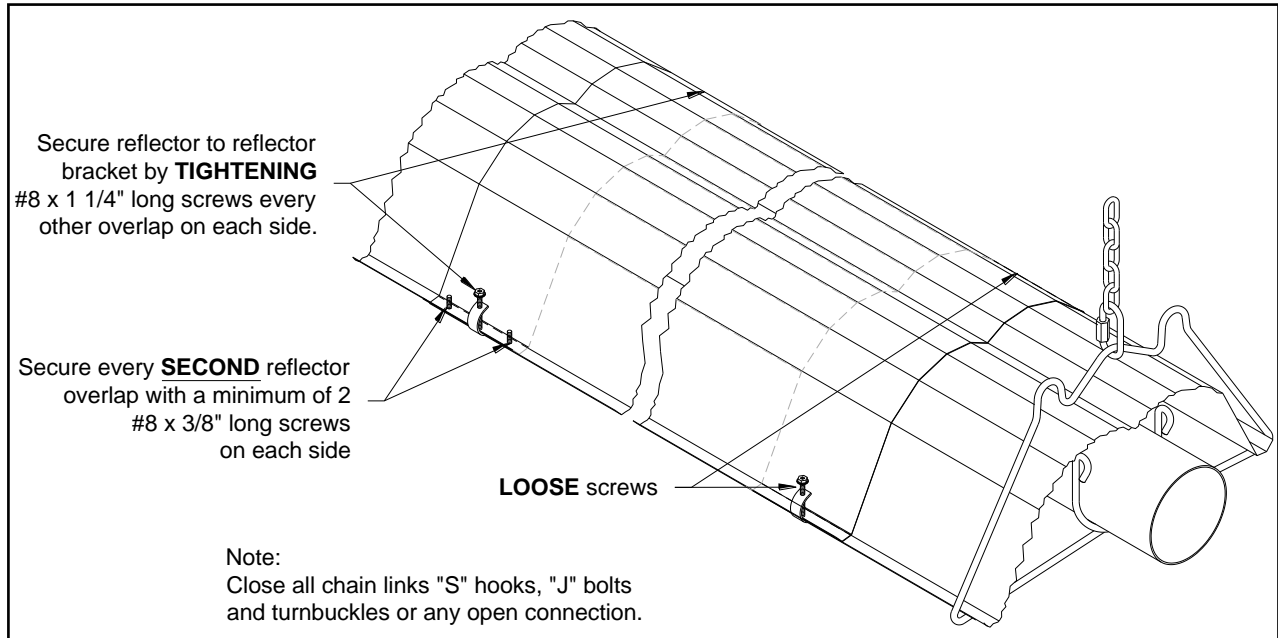

Figure 17: Reflector Supports Installation and Reflector Overlap
- Secure every second reflector overlap together with a minimum of 2 - #8 x 3/8" inch long screws (not supplied), and secure reflector to the reflector bracket at this point by tightening down #8 x 1 1/4" screws supplied with reflector brackets (Figure 17). The remaining reflector overlap joints and reflector brackets are left loose to accommodate system movement.